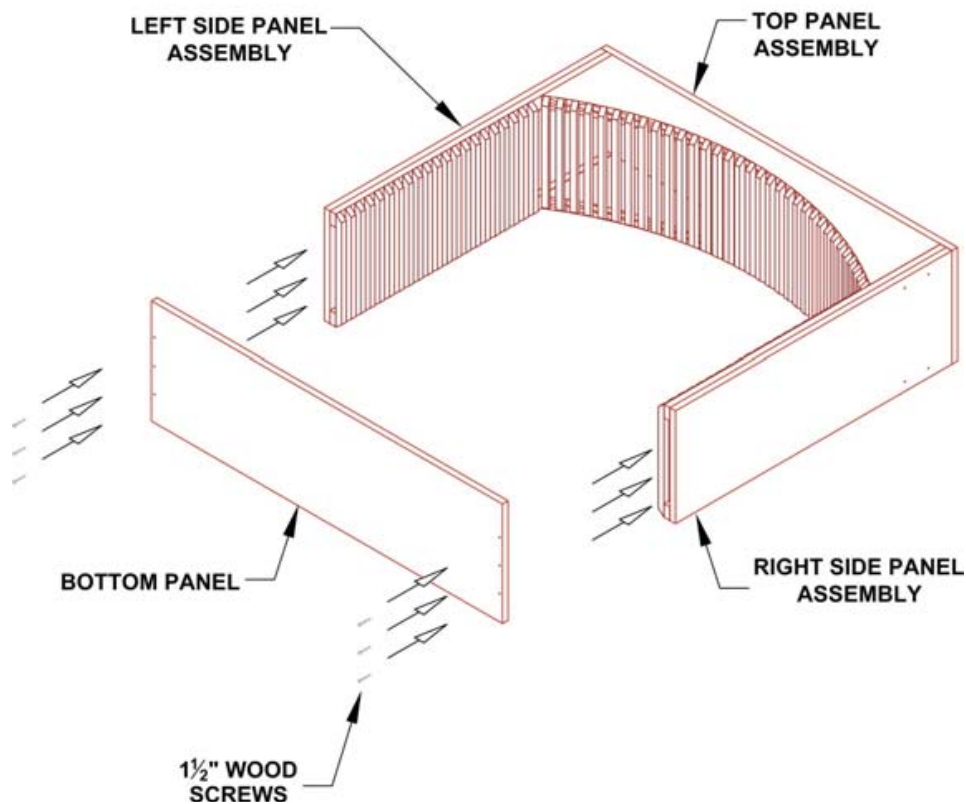

Figure 5
7. Now that your top is secure, attach the bottom piece. Apply some wood glue to the bottom of your side panels. Set the bottom panel against the side panels as shown in **(Figure 5)**. Align the panel with the back edges as it will overhang the front by $\frac{3}{4}$ ". Note: If your arch is being paired with a double deep table then the bottom panel is not used.
8. Pre-drill holes through the bottom panel and into the side panels in the same manner you did in step 4 **(Figure 5)**. Secure the side panel to the bottom panel using 1 1/2" wood screws.